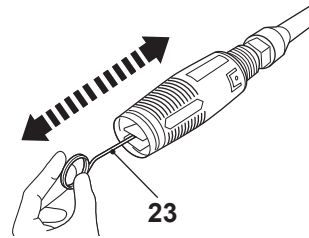

Fig. 39
Remove any dirt deposits from the nozzle hole (18, 19) using the cleaning needle (23) (Fig. 39).